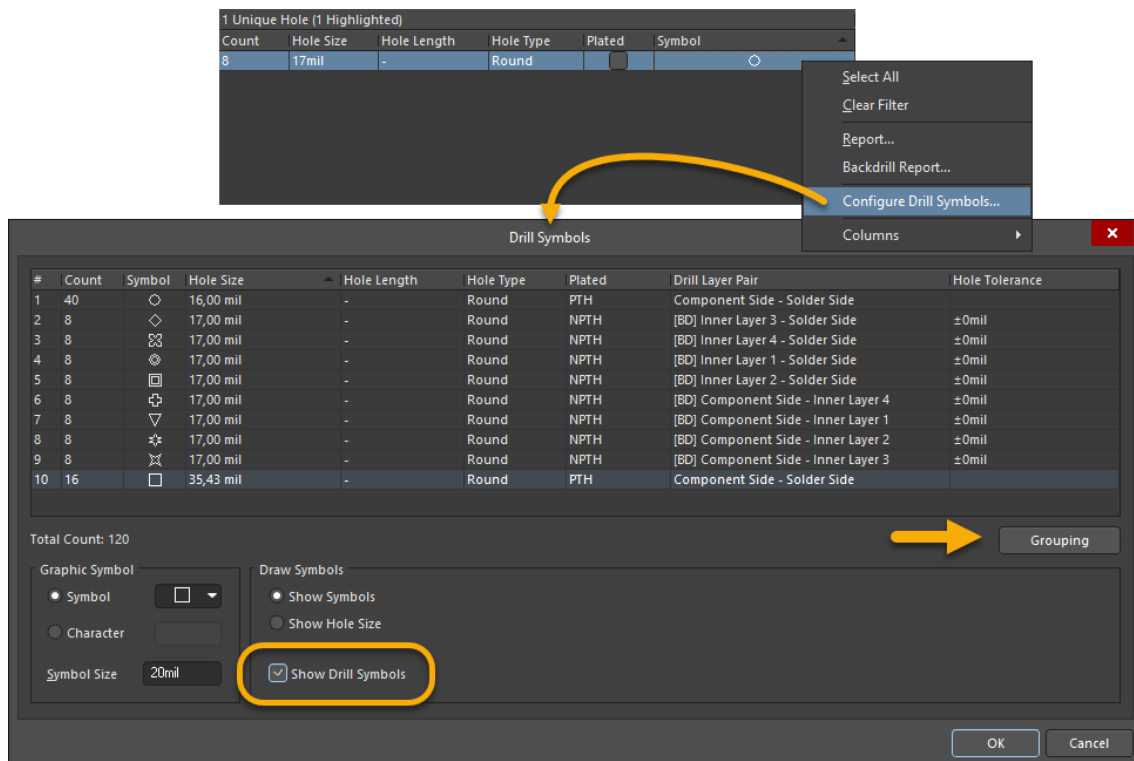

Figure 15. Open Drill Symbol configuration with option for visibility
30. Right-click on the *Hole Information* pane to see and configure the **Drill Symbols**, Figure 15.